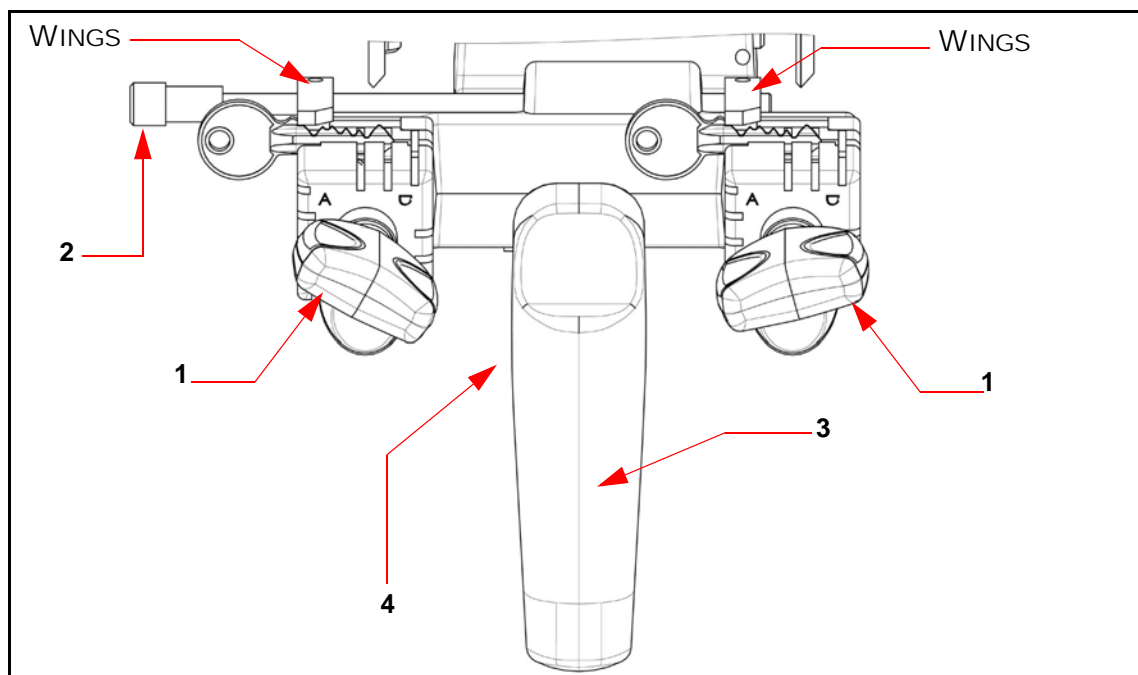

Figure 9: Duplicating single bit keys with shoulder
2. Put the 'key sample' in the left jaw and secure it by means of lever (1). The key sample must be arranged with the shoulders slightly detached from the left edge of the jaw and the back in contact with the base (see figure 9);
3. Insert the 'blank key' into the right jaw and align it with the key sample by lifting gauge (2) and pushing the wings into contact with the shoulders of both keys;
6. Cautiously move the carriage downwards holding its handle (3) and release it with lever (4). Gauge and wings will go back to the initial position automatically;
7. Press the "Start Machine" button to start the motor and draw the carriage near the milling cutter (8);